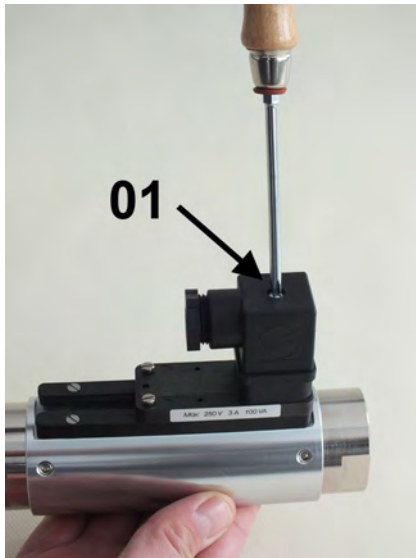

Fig. 22: Detach socket
1. ➤ Release the fixing screw (Fig. 22/01) from the socket.
9. ➔ Plug the socket onto the connection plug and tighten the fixing screw. (Fig. 22/1)